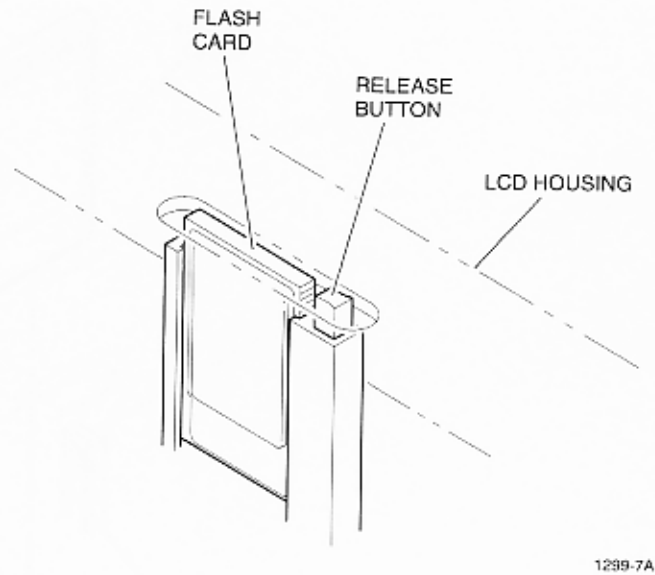

Figure 3-3. Flash Card Removal.
3. See Figure 3-3 and press the release button for the flash card to be removed. Carefully pull the flash card straight out of the LCD unit.
2. Carefully push the flash card fully into position. The release button will return to its out position and the flash card will be flush with the LCD housing (see Figure 3-3).